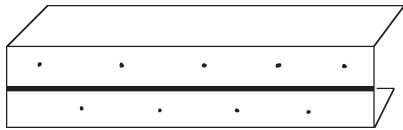

Figure 1
1. Run a liberal bead of sealant along the back surface of wall hanger and install to existing structure. (See Figure 1 and 2.)